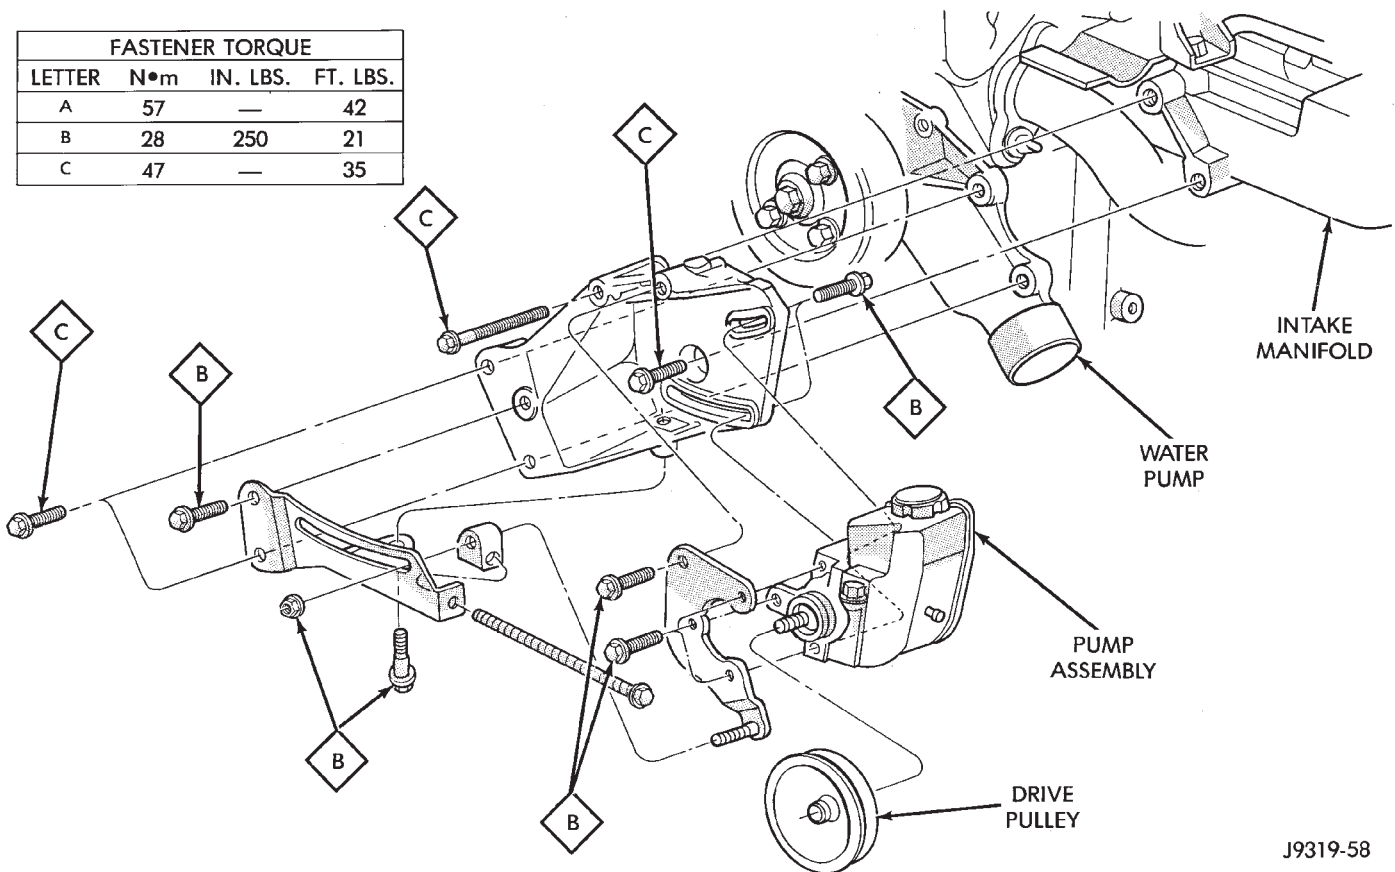
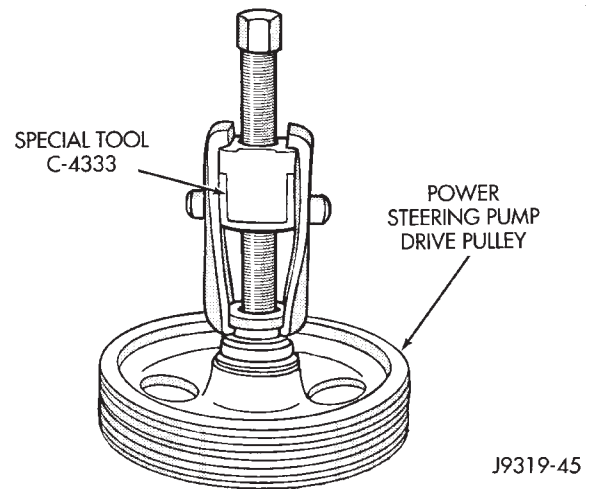

Fig. 2 Pump Mounting (4.0L I-6)
Fig. 4 Remove Drive Pulley (Typical)
(3) Remove pressure and return hoses from pump. Refer to Pressure and Return Hose Replacement in this section.
(4) Remove 2 rear bracket-to-pump bolts (Fig. 2).
(5) Remove lower nut at adjustment bracket.
(6) Remove adjuster bolt.
(7) Remove upper pivot bolt.
(8) Tilt pump forward and remove pump and front bracket assembly from engine bracket.
(9) Remove adjuster collar at lower stud on pump bracket.
(10) Remove pulley from pump. Refer to Drive Pulley Replacement in this section (Fig. 4).
(11) Remove 3 adjustment bracket-to-pump bolts.
(3) Install lower adjuster collar on adjuster bracket stud (Fig. 2).
(4) Tilt pump rearward and install pump onto engine bracket.
(5) Install upper pivot bolt.
(6) Install lower adjuster bolt.
(7) Install lower adjuster stud nut.
(8) Install 2 rear engine bracket to pump bolts. Tighten to 28 N•m (21 ft. lbs.) torque.
(9) Install the serpentine drive belt. Refer to Group 7, Cooling for additional information.
(10) Install the pressure and return hoses to pump. Refer to Pressure and Return Hose Replacement in this section.
(11) Add power steering fluid. Refer to Power Steering Pump Initial Operation in this section.
- (1) Remove power steering pump. Refer to Pump Replacement in this section.
- (2) Remove the drive pulley with Puller C-4333 (J-25034-B) (Fig. 4).